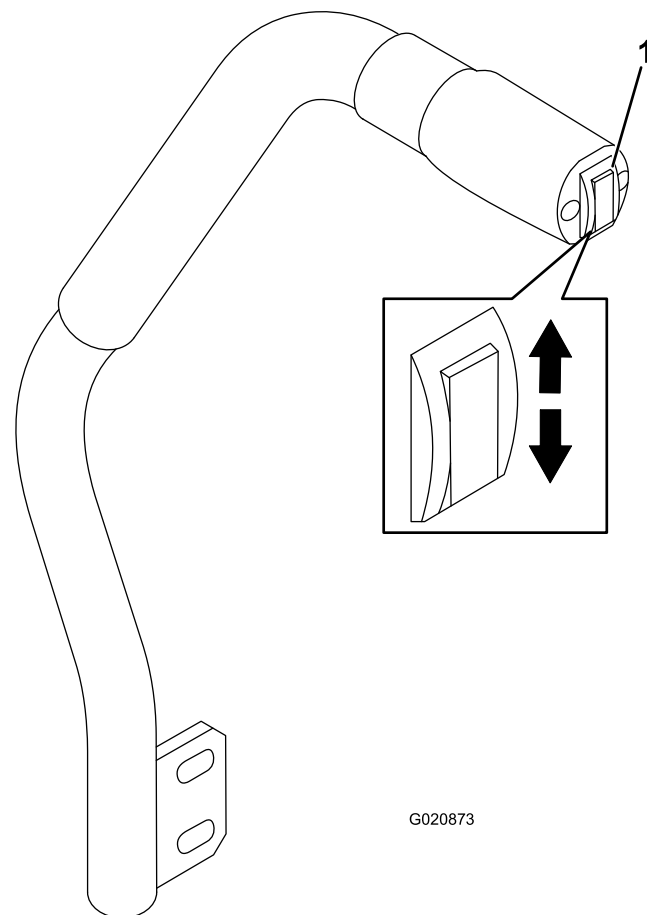

Figure 19
The deck-lift switch raises and lowers the mower deck (Figure 19).
- To lower the mower deck, push the deck-lift switch down (Figure 19).
- To raise the mower deck, push the deck-lift switch up (Figure 19).
1. With the engine running, push the deck-lift switch up until the mower deck is fully raised and **release the switch immediately** (Figure 19).